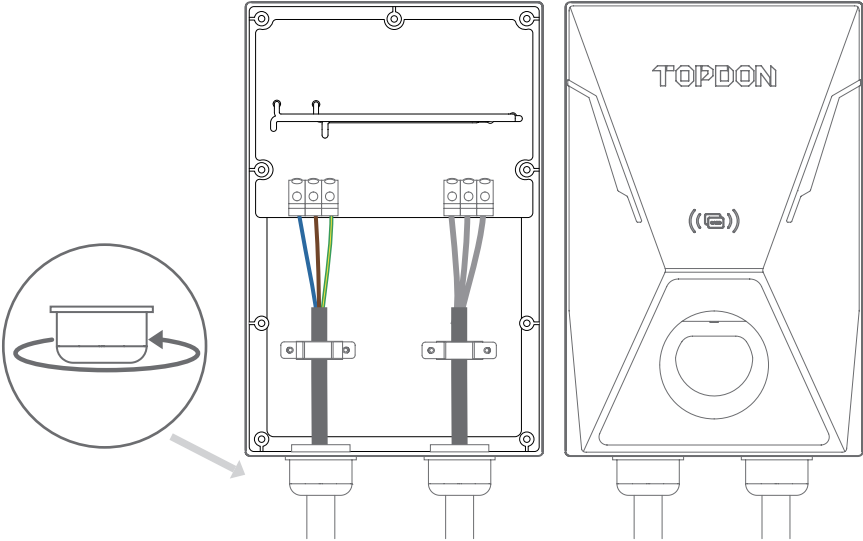

Fig. 5-8
7. Reinstall the gland and the front cover. (See Fig. 5-8)